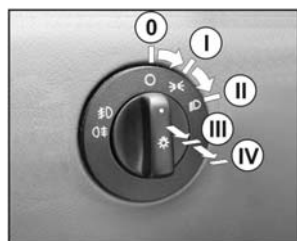

Fig. 4.11. Positions of master light switch handle
**28. Master light switch.** The switch has five fixed positions (fig. 4.11):